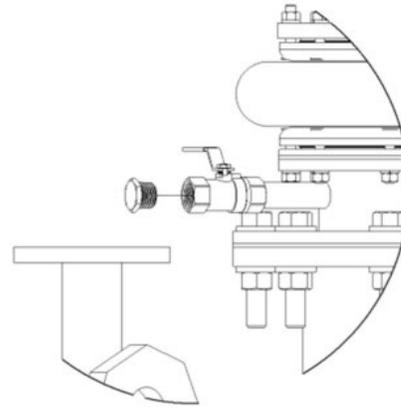

Figure 2. Plug Removal
- **Figure 2** Confirm the ball valve is closed and remove the plug.